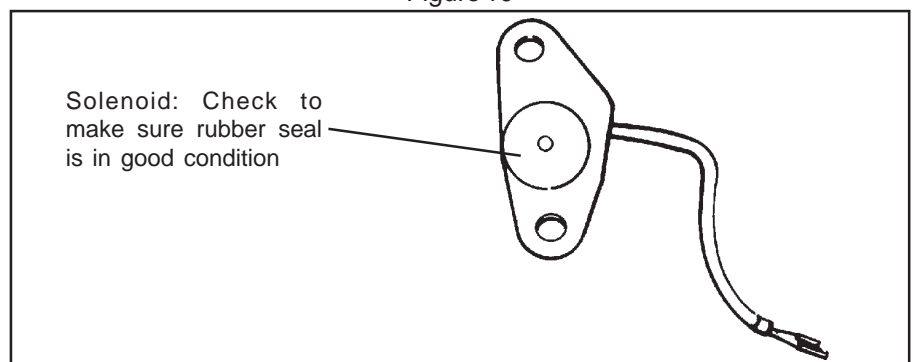

Figure 11
**STEP 11.** Carefully examine Detent Solenoid. Make sure the rubber seal is in good condition and has no nicks or cuts (**See Fig. 11**). If the seal is damaged, you will have to replace the solenoid. If the seal leaks the transmission will be in passing gear all the time. Install the solenoid with two (2) 1/